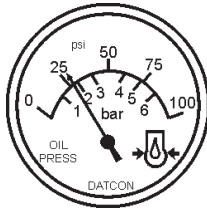

Figure 47. Oil Pressure Gauge
12. The engine oil pressure gauge (Figure 47) will indicate the oil pressure of the engine. Under normal operating conditions the oil pressure is approximately